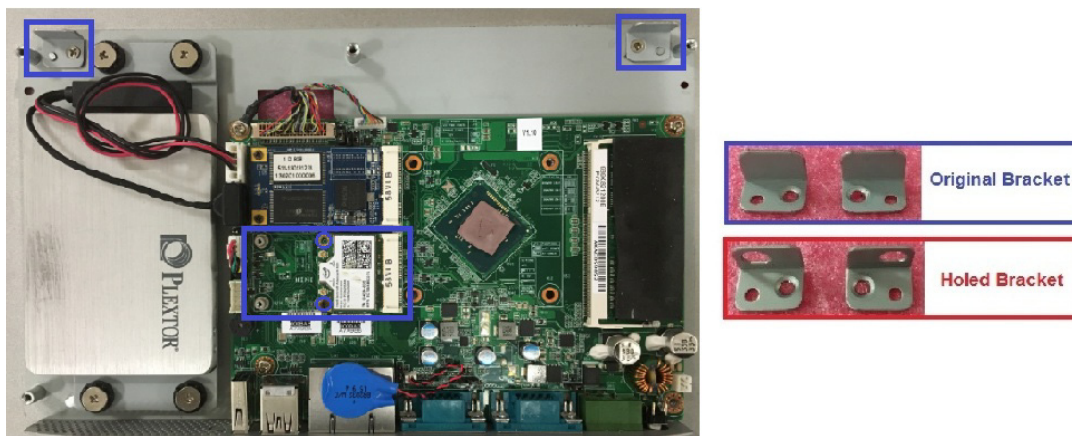

Figure 2.16 Installing the half-size mini PCIe card
2. Insert the half-size mini PCIe card into the socket at a 45-degree angle. Secure the card in place using a screw provided in the accessory box. Next, replace the original bracket with the holed antenna bracket provided in the accessory box (Figure 2.16).